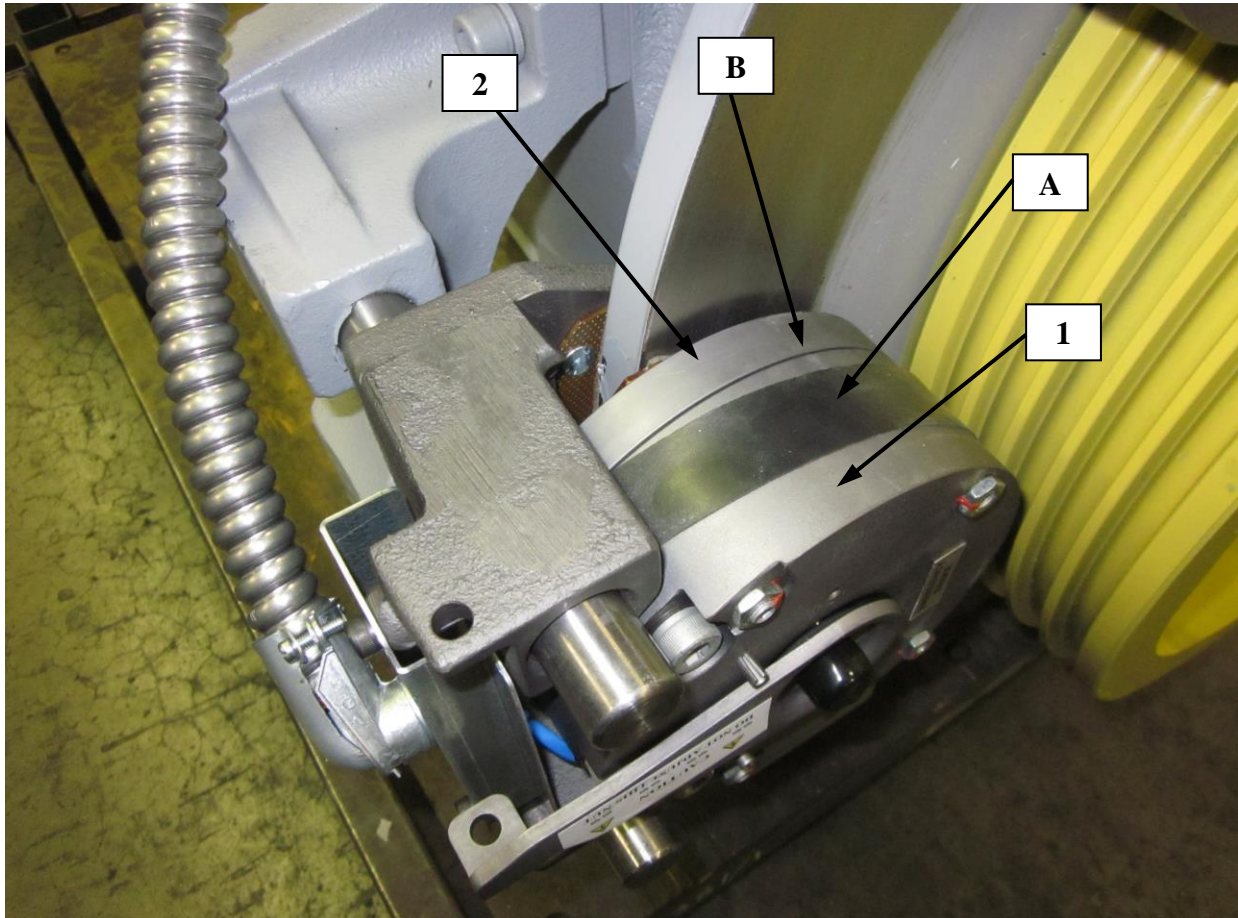

Figure 11
- Move rubber dust shield “A” to expose Air Gap “B”. See Figure 11